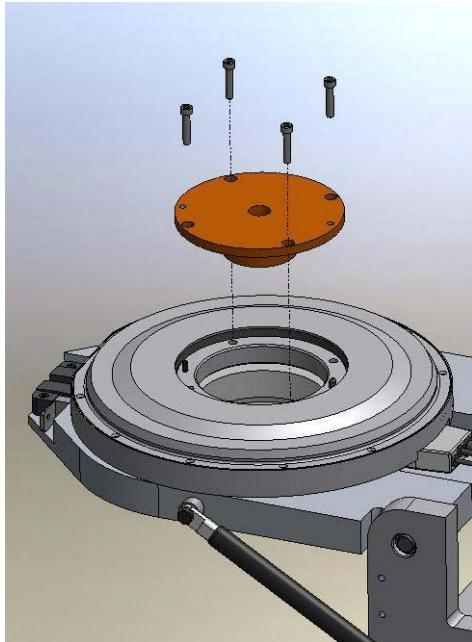

Figure 5-24
2. Pull the Table shield toward the rear to allow the collimator mounting plate on the SPECT unit to tilt down. Attach Laser Holder Disc, SPECT Alignment Tool (P/N 5306188) to the collimator drive flange (Figure 5-24) using four (4) M6 x 20 socket head cap screws (2109867-14).